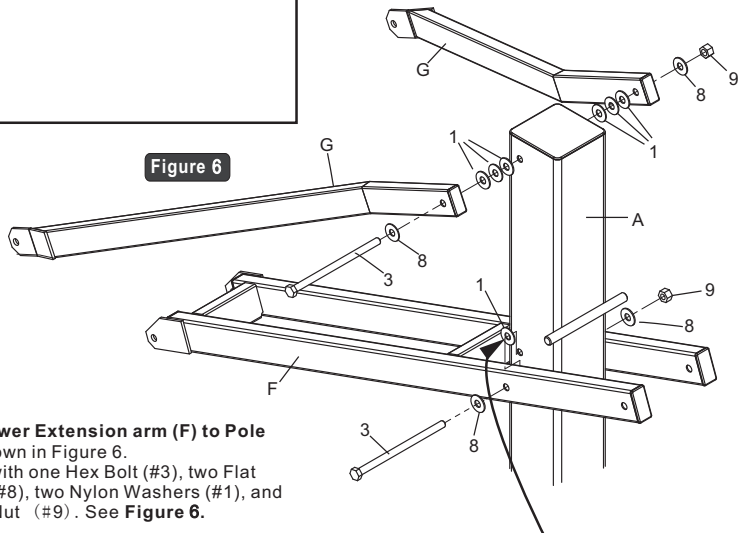

Figure 6
Attach Upper Extension arm (G) to Pole (B), using one Hex Bolt (#3), two Flat Washers (#8), 6 Nylon Washers (#1), and one Lock Nut (#9). See **Figure 6**.
Attach Lower Extension arm (F) to Pole (B), as shown in Figure 6.
Secure it with one Hex Bolt (#3), two Flat Washers (#8), two Nylon Washers (#1), and one Lock Nut (#9). See **Figure 6**.